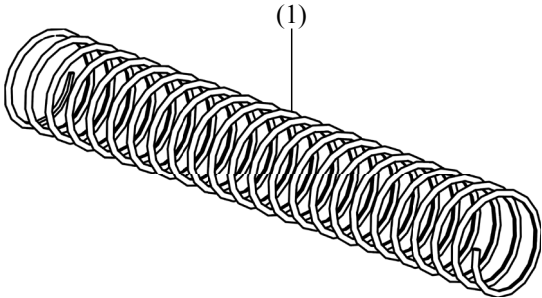

Figure 2.8
1. Weak or broken action spring (Fig. 2.8, 1)	Replace spring